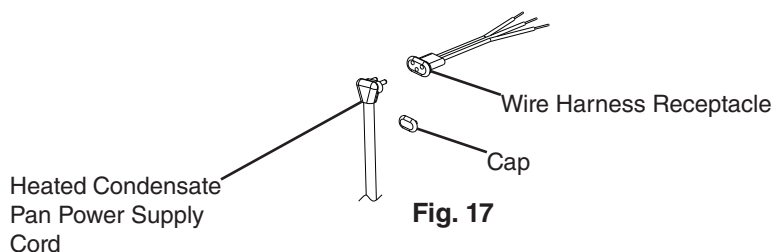

Fig. 17
- 15) Remove the wire harness receptacle cap, then plug the heated condensate pan power cord into the wire harness receptacle. See Fig. 17. Secure the heated condensate pan power cord to the appliance main power cord with a nylon tie.